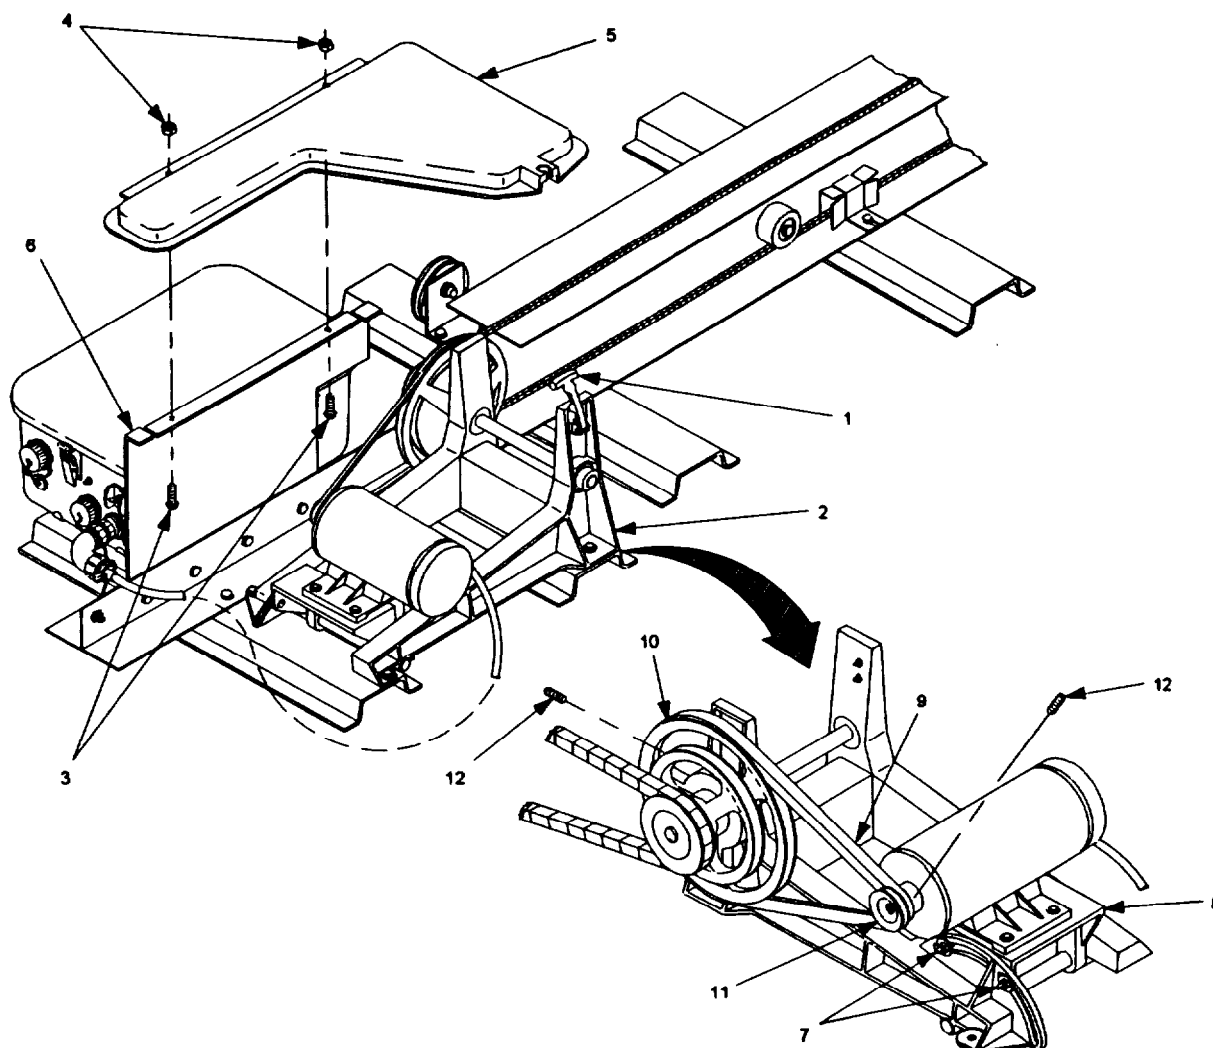

Figure 2-3. Setting Speed of IMTC.
- (4) Refer to figure 2-3. Release flex draw latch (1) that secures cover to drive mechanism assembly (2).
- (5) Remove two pan-head screws (3) and hex nuts (4), and remove drive mechanism cover (5) from cover bracket (6).
- (6) Loosen adjustment bolts (7) on motor mount platform (8) and release tension on V-belt (9).